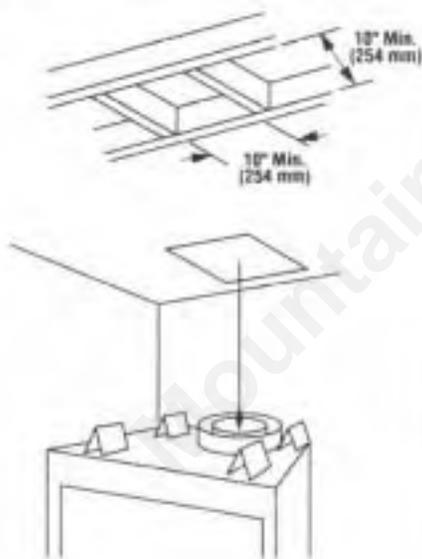

Figure 17
**A.** Use a plumb line from the ceiling above the appliance to locate center of the vertical run. Cut and/or frame a 10" x 10" inside (254 mm x 254 mm) minimum opening about this center mark (Figure 17).
C. If the vertical route is to penetrate a ceiling, use plumb line to locate the center above the appliance. Cut and/or frame a 12" x 12" (305 mm x 305 mm) inside opening about the center (refer to Figure 17).